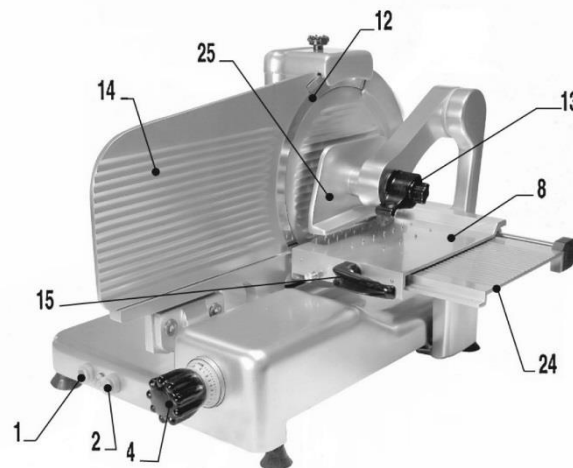

Fig. 16 - Loading the foodstuff for slicer mod. VK BV
5.2 SHARPENING THE BLADE (Ref. fig. 16 – 17)